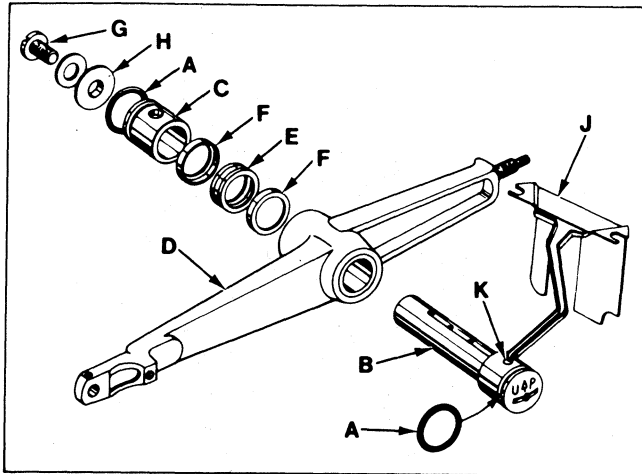

Fig. 18
1. Install "O" rings (A, Fig. 18) onto needle lever stud (B) and thrust collar (C).
2. With needle lever (D) in machine and positioned properly; insert stud (B) through hole in needle lever until its shoulder contacts the needle lever and the word "UP" on stud is in the upright position. While making sure no binding exists in the needle bar link, secure stud (B) with the front set screw in top of machine bed.
3. Install temper load ring (E) and compression cups (F) onto stud (B), then push ring and cups through opening in machine bed.
4. Install thrust collar (C) onto stud (B) being careful not to damage "O" ring. Compress components together by tightening screw (G) until washer (H) bottoms against stud (B). Secure stud (B) in position using the rear set screw in top of bed.
5. To check temper load ring for proper compression, remove screw (G) from stud (B) and loosen rear set screw in top of bed. Thrust collar (C) should spring out .003 - .007 inch (.08 - .18mm). Compress load ring in reverse order, then tighten rear set screw.
6. With indented "UP" on stud (B) in upright position, install bearing oiler (J) so its hook sets in oil supply hole (K) of stud. When hook and stud are secured in their proper positions, the proper amount of oil will be channeled to stud for lubricating needle lever (D).